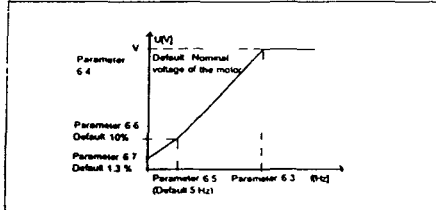

Figure 6.5-17 Programmable V/f curve
- The field weakening point is the output frequency where the output voltage reaches the set maximum value (see 6.4). Above that frequency the output voltage remains at the set maximum value. Below that frequency output voltage depends on the setting of the V/f curve parameters 1, 8, 1, 9, 6, 5, 6, 6 and 6, 7. See figure 6.5-17.
If the programmable V/f curve has been selected with 2, 28 parameter 1, 8 this parameter defines the middle point frequency of the curve. See figure 6.5-17.
If the programmable V/f curve has been selected with parameter 1, 8 this parameter defines the middle point voltage (% of motor nominal voltage) of the curve. See figure 6.5-17.
If the programmable V/f curve has been selected with parameter 1, 8 this parameter defines the zero frequency voltage of the curve. See figure 6.5-17.